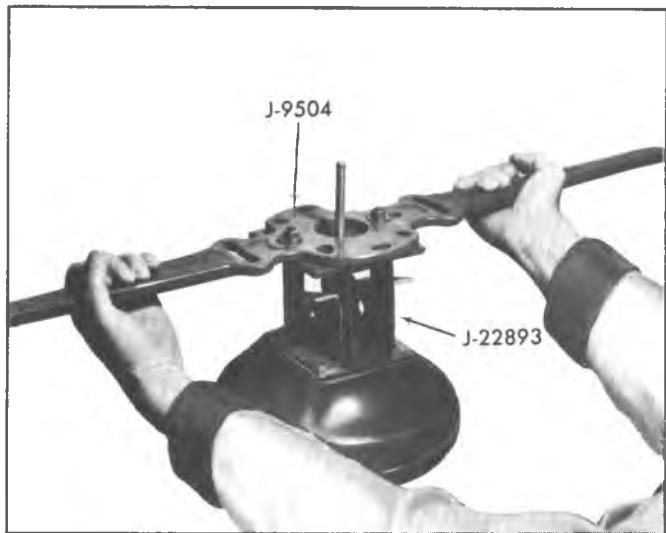

Fig. 4A-Separating Tilt Bracket Type Housings with Tools J-9504 and J-22893
- b. **Tilt Mounting Bracket Except Chevelle (Fig. 4A)**